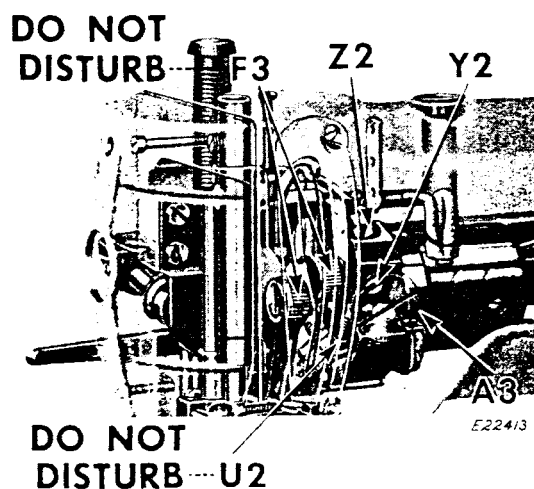

Fig. 53. Needle Bar Crank
1. Remove face plate and arm hole plug **A3**, Fig. 53 from machine.
3. Turn machine pulley as required to reach screw **Y2**, Fig. 53, in needle bar crank through hole left by removal of plug **A3**. Loosen set screw **Y2**.
4. Using wrench **146057** (through same hole) and turning machine pulley as required, loosen the large hexagon head clamping screw **Z2**, Fig. 53, on needle bar crank.
CAUTION: DO NOT DISTURB the smaller hexagon head position screw **U2**, Fig. 53, which holds the needle bar crank at its correct position on the horizontal arm shaft.
8. The needle thread take-up link assembly (including parts **F3**, **G3**, **H3**, **J3**, **Z3** and **W4**) can now be pulled free of the needle bar crank **WITHOUT DISTURBING THE NEEDLE BEARINGS WITHIN THE THREAD TAKE-UP CRANK AT F3**, Fig. 53.
NOTE: If the needle bearings at **F3**, Fig. 53, are accidentally disturbed, they must be reassembled so that there are exactly 18 bearings in each of the two assemblies.
6. Turn machine pulley as required to make set screw **Y2** in needle bar crank accessible through hole at **A3**, **Fig. 53** in front of machine head.